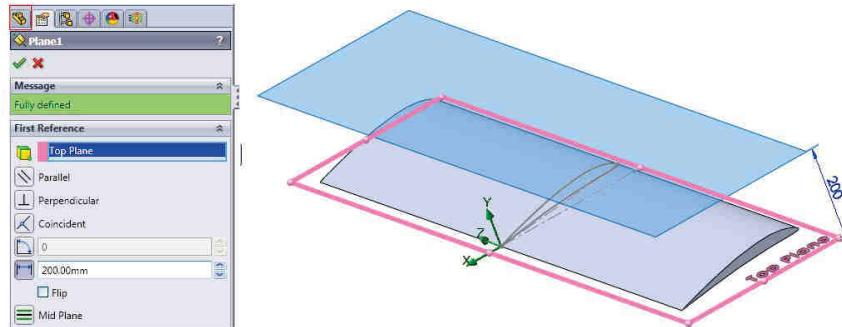

Fig. 16.20
- Se va crea un plan paralel cu planul **Top** la distanță de 200 mm, fig. 16.20.
- A parallel plane with **Top** plane will be created at 200 mm distance, fig. 16.20.